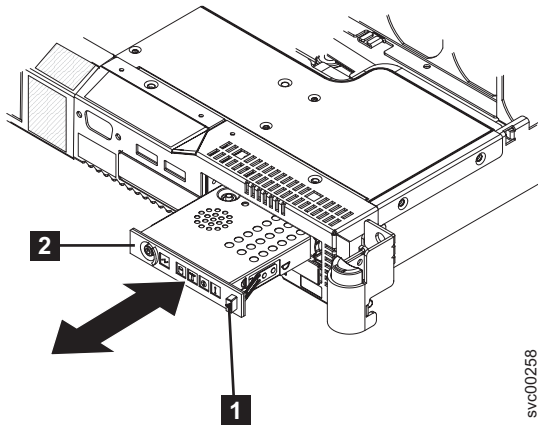

Figure 216. SAN Volume Controller 2145-8G4 operator-information panel
9. Press the release button (**1** in Figure 216 on page 220) on the front of the operator-information panel **2** and pull forward until it locks in place.